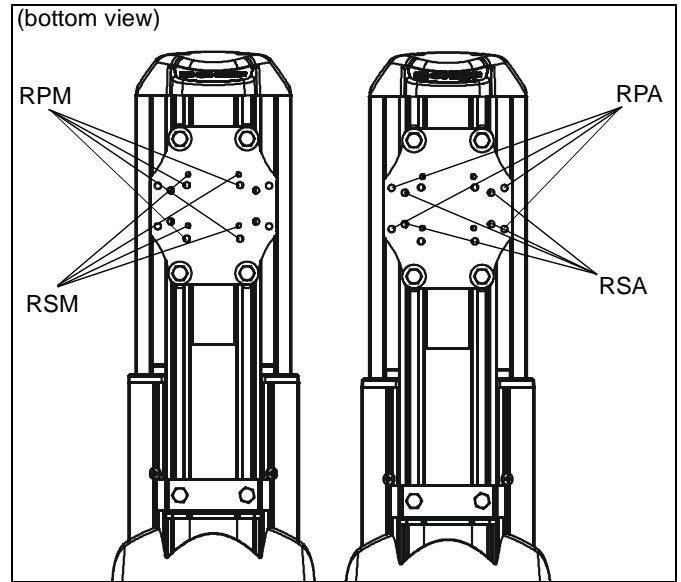

Figure 13
Refer to Figure 13 to determine hole configuration to use for each specific projector mount.
1. Line up mounting holes on RPM mount with corresponding holes on projector mounting plate. (See Figure 13)
1. Line up mounting holes on RSM mount with corresponding holes on projector mounting plate. (See Figure 13)
1. Line up mounting holes on RPA mount with corresponding holes on projector mounting plate. (See Figure 13)
1. Line up mounting holes on RSA mount with corresponding holes on projector mounting plate. (See Figure 13)